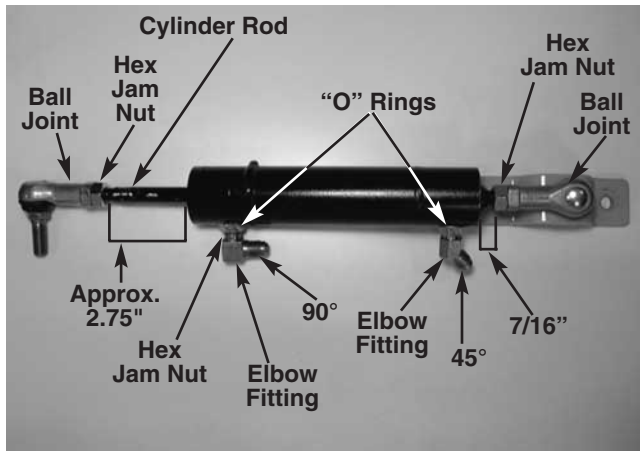

FIGURE 4.
11. Record the exact positions of all the ball joints, hex nuts and fittings on the cylinder. See figure 4.
12. Measure the distance from the inner edge of the ball joint hex nut to the cylinder end. Repeat this step for the opposite end. Write both distances down. See figure 4.
NOTE: The proper measurements are needed to keep the steering adjusted properly during reassembly. These measurements should be approximately 2.75" on the rod end, and 7/16" on the mounting bracket end. See figure 4.